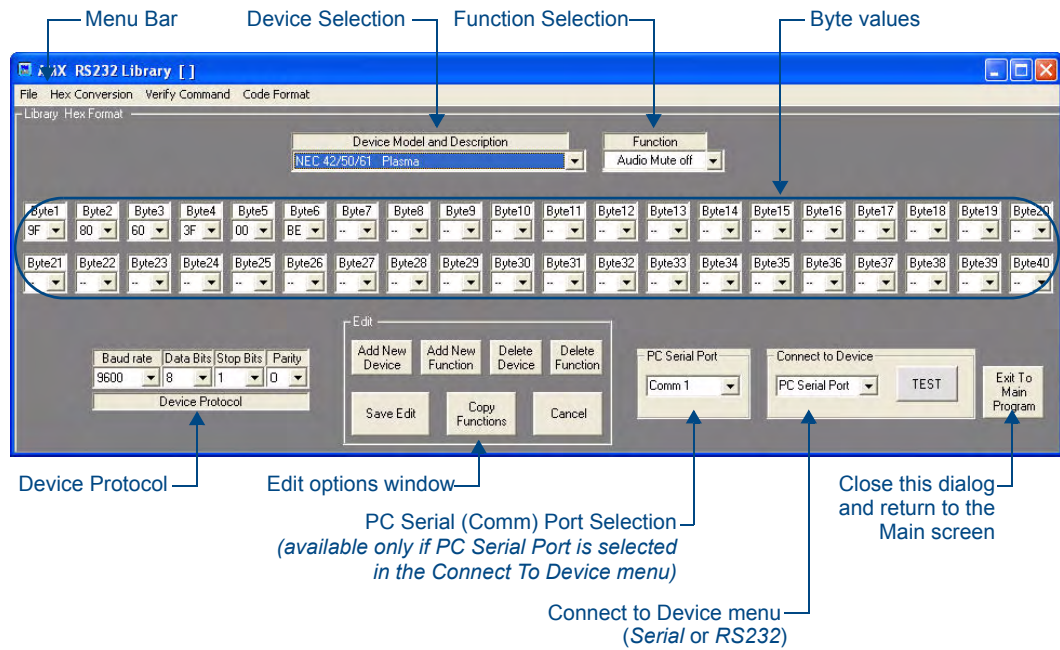
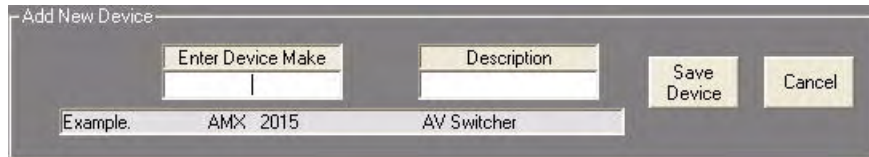

FIG. 34 AMX RS232 Library dialog
FIG. 35 AMX RS232 Library dialog - Add New Device window
To view the RS232 libraries, open the RS232 window then click the **View RS232 Library** button to open the *AMX RS232 Library* dialog (FIG. 34).
1. Click the **Add New Device** button in the *Edit* options (see FIG. 34) to invoke the *Add New Device* window (FIG. 35).